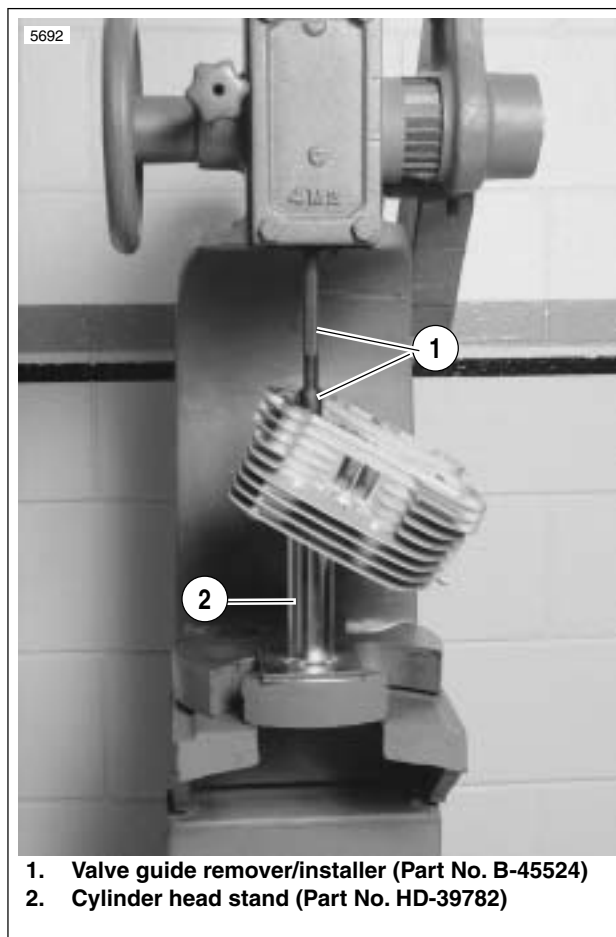

Figure 3-74. Installing Shoulderless Valve Guide
4. See Figure 3-74. Install shoulderless guides using VALVE GUIDE REMOVER/INSTALLER TOOL (Part No. B-45524). Press or drive guide until the tool touches the machined surface surrounding the guide. At this point, the correct guide height has been reached.